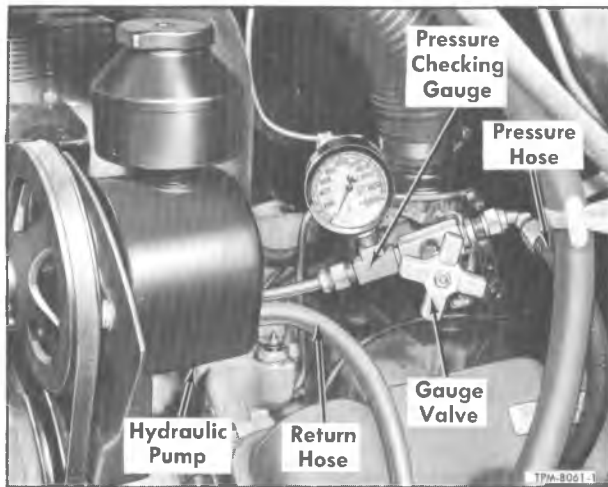

Figure 1—Checking Pump Hydraulic Pressure (Vane Type Pump) (Typical)
1. Disconnect pressure hose from fitting at the hydraulic pump. Connect a 0 to 2000 psi pressure gauge (J-22181) between the pressure hose and the pump pressure port. Leave valve in pressure gauge line open (fig. 1).